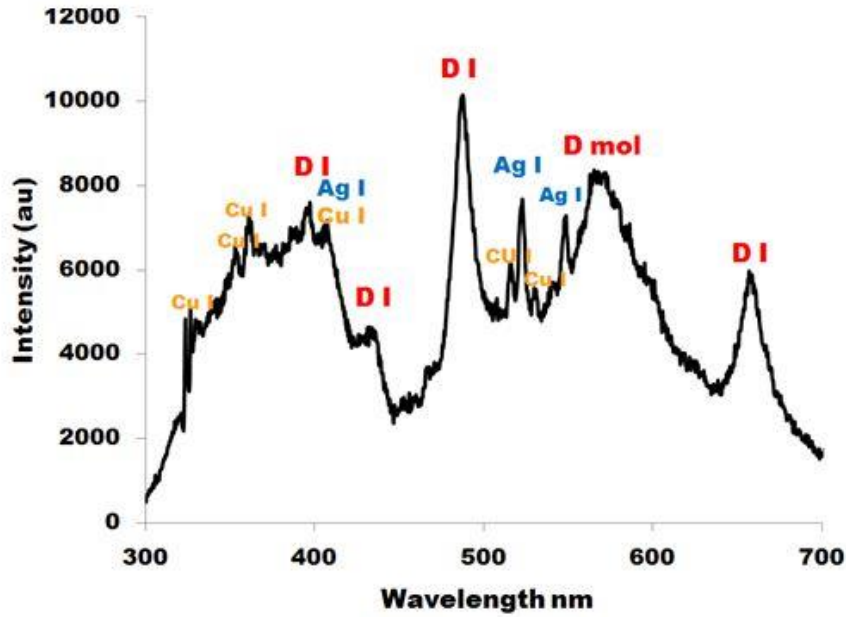
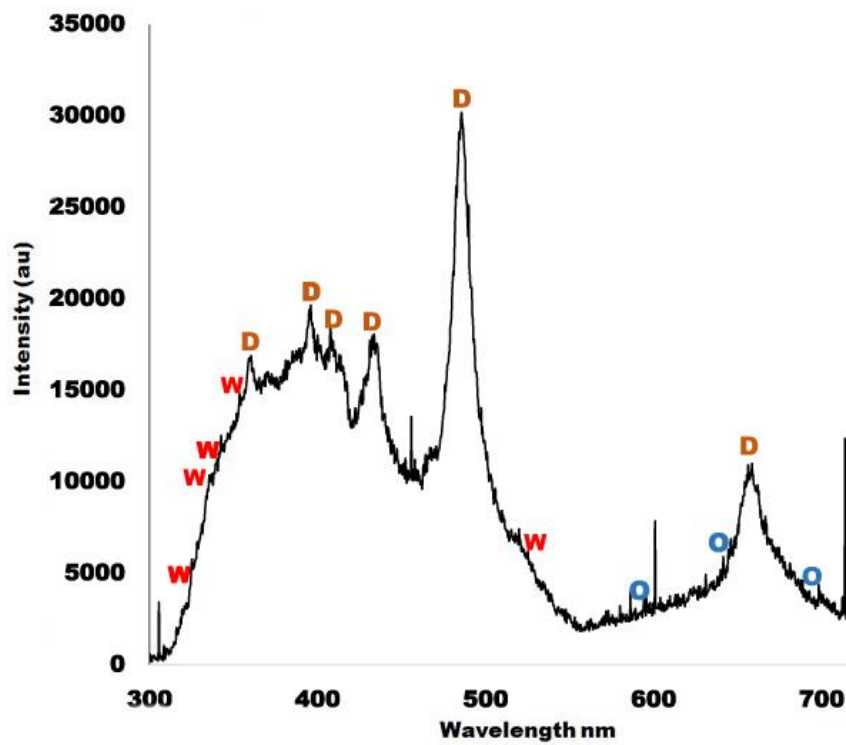

Figure 2a
Figure 2b
Figure 2 - The decline in impurities in FF-1's plasma with the new tungsten electrodes is shown in this pair of optical spectra. In Figure 2a, top, the spectrum from the old electrodes show large copper(Cu) and silver(Ag) lines. The new spectrum from the tungsten electrodes, Figure 2b, bottom, shows much smaller tungsten (W) and oxygen (O) lines. Overall, impurities have dropped by about a factor of ten. The large molecular deuterium band has also disappeared in the new spectrum, indicating a hotter plasma.